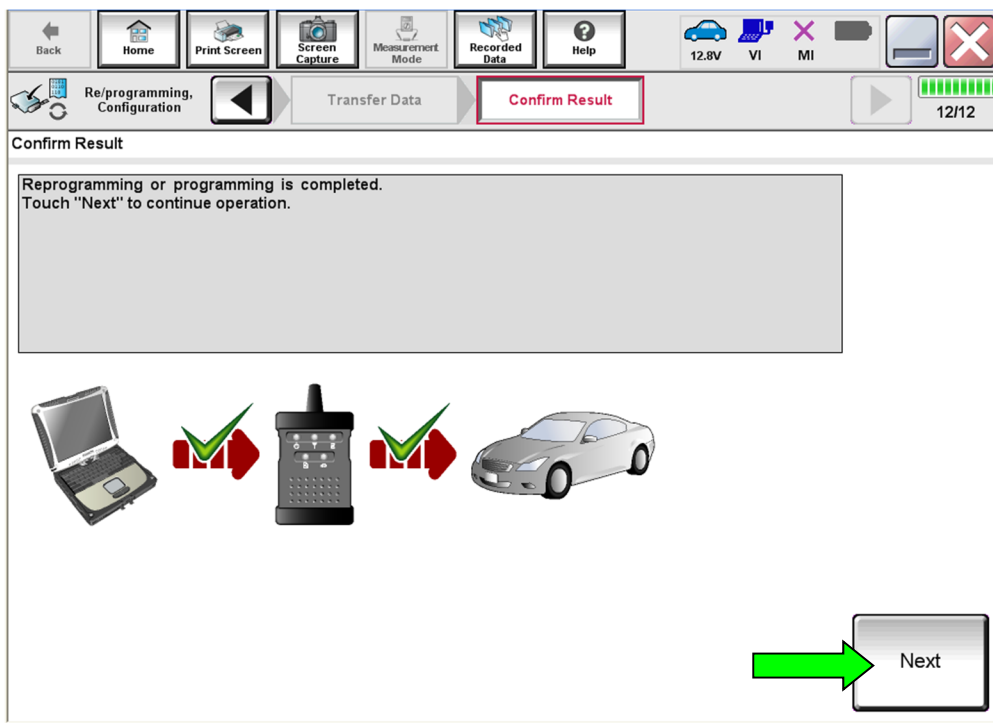

Figure 13
22. When the screen in Figure 13 displays, reprogramming is complete.
NOTE: If the screen in Figure 13 does not display (indicating that reprogramming did not complete), refer to ICC/ADAS 2 recovery on the next page.